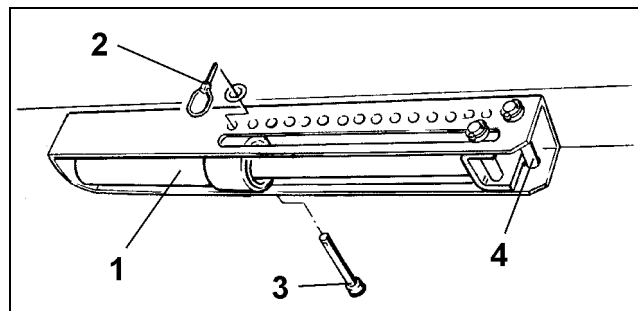

Fig. 75
Connect the hydraulic ram (Fig. 75/1) to a single acting tractor Control valve and actuate the Control valve only from the tractor cab.
Two pins (Fig. 75/3 and Fig. 75/4) function as stroke limiters for the stroke of the hydraulic ram (Fig. 75/1) placed within the setting segment. When the hydraulic ram is without pressure the top of it rests on the pin (Fig. 75/3) and when the hydraulic ram is pressurised it rests on the pin (Fig. 75/4).
- Pressurise hydraulic ram (Fig. 75/1).
- Insert the pin (Fig. 75/3) into one of the holes of the quadrant plate and secure by using a clip pin (Fig. 75/2).